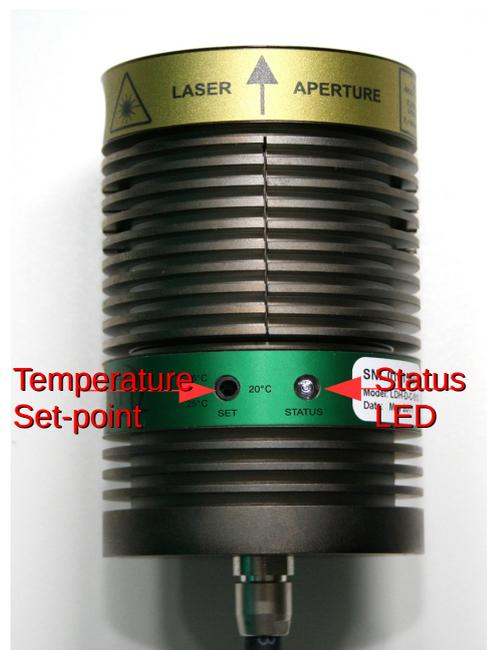

Fig. 32: Top-view of LDH-C series laser head
The thermoelectric (TE) cooler maintains the temperature of the diode element and collimating optics at a constant level. The factory pre-set value is approximately 20 °C. The desired temperature can be set via the Temperature Set-Point Adjustment potentiometer located inside the LDH (see Fig. 32). For temperature adjustments a non conductive potentiometer adjustment tool is required.